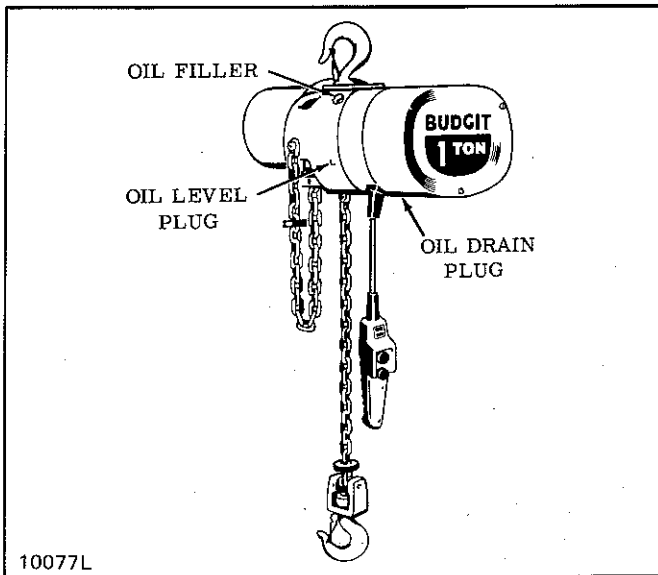

Figure 4-1. Location of Oil Filler and Plugs
4-2. CHANGE GEAR CASE OIL (Fig. 4-1)
(1) Check to see that bolts securing motor to frame are tight. Also check for any visible damage to motor, such as a cracked end bell or dented stator housing. Replace damaged parts.
(2) Check hoist frame for signs of visible damage. If frame shows evidence of fracture, the hoist should be disassembled and inspected for further signs of damage from possible overloading. Replace damaged parts. Also check condition of limit lever.
(3) Check for possible damage to electrical compartment cover. Be sure screws holding cover are tight.
e. Check Oil Level. Remove oil level plug (fig. 4-1). If oil level is not even with bottom of tapped hole, add Automatic Transmission Fluid, DEXRON[®] Type, to bring to proper level.